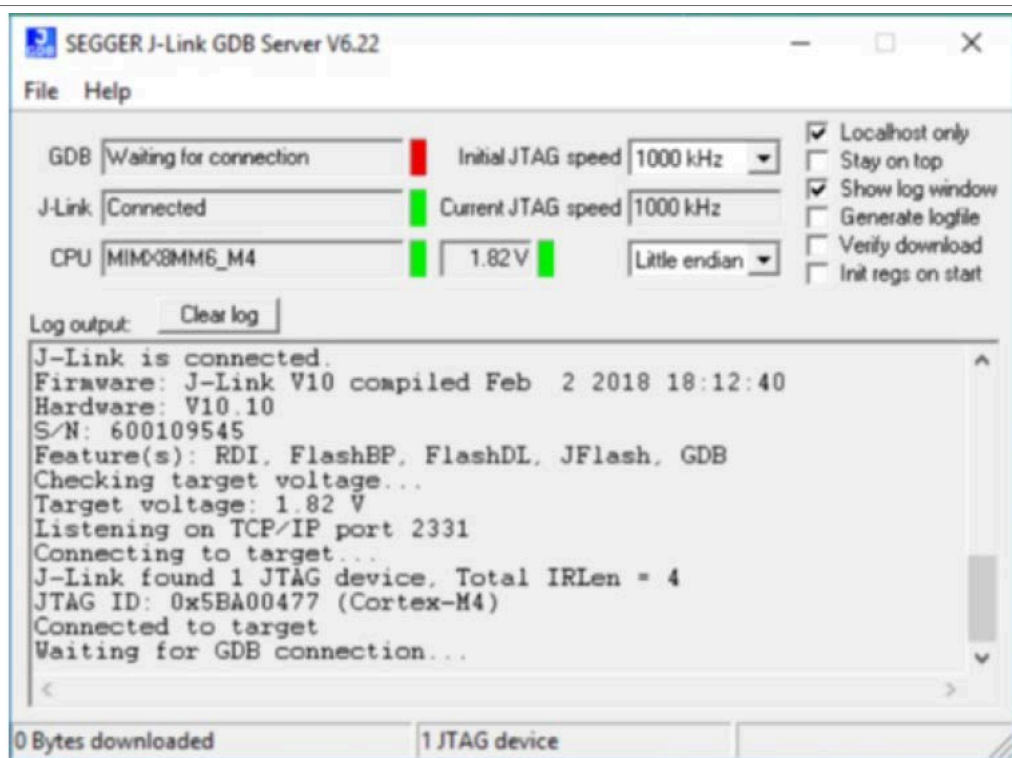

Figure 109. J-Link connected and GDB server running
5. After GDB server begins to run, the screen looks as in Figure 109: